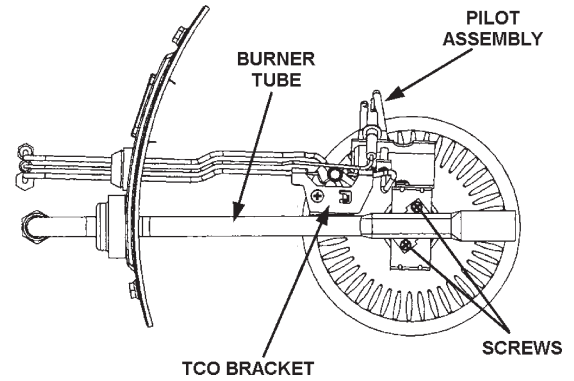

FIGURE 24.
14. To remove the propane (LP) gas pilot assembly, remove the Phillips-head screw holding the TCO bracket to the burner tube bracket, see Figure 24.